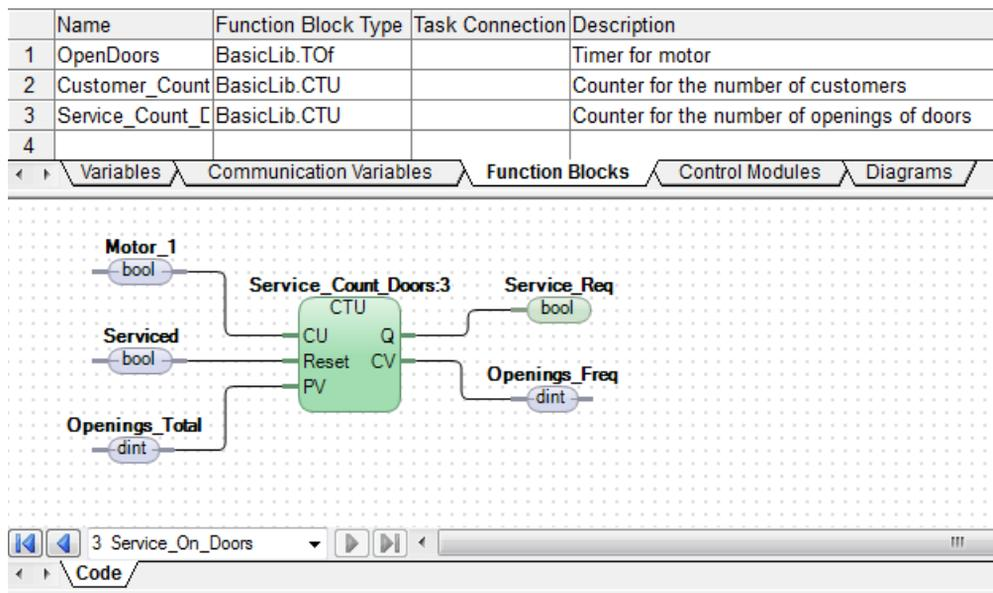

Figure 29. Variable connections to Service\_Count\_Doors Function Block Type
2. Connect the variables to the **Service\_Count\_Doors** as in the Figure 29.